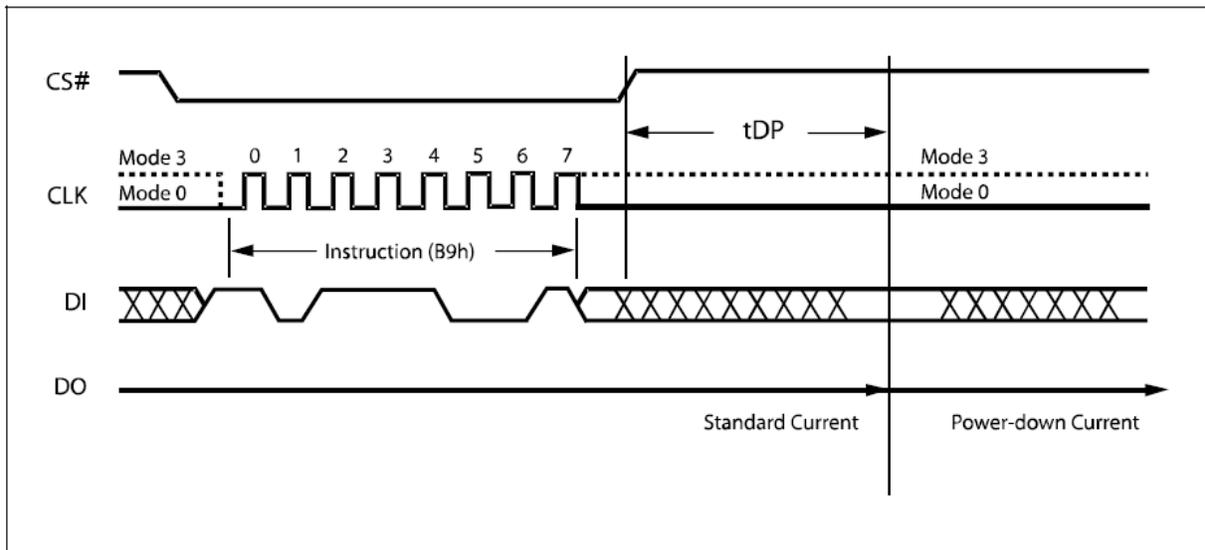

Figure 32. Deep Power-down Instruction Sequence Diagram
The instruction sequence is shown in Figure 32. Chip Select (CS#) must be driven High after the eighth bit of the instruction code has been latched in, otherwise the Deep Power-down (DP) instruction is not executed. As soon as Chip Select (CS#) is driven High, it requires a delay of  $t_{DP}$  before the supply current is reduced to  $I_{CC2}$  and the Deep Power-down mode is entered.